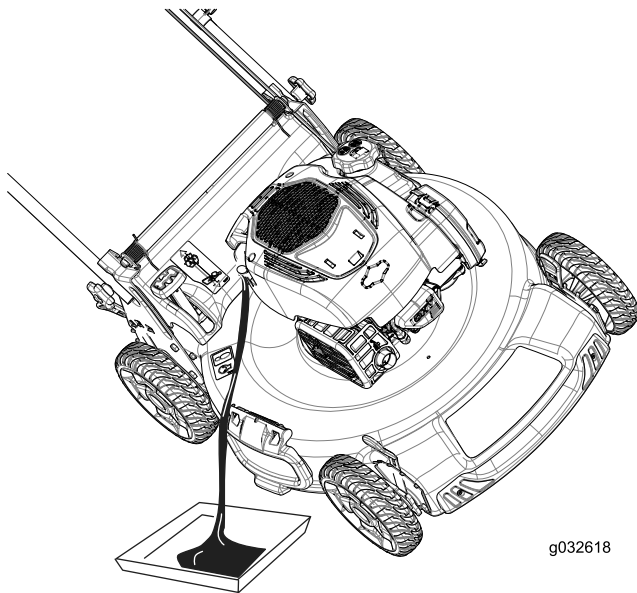

Figure 28
4. Tip the machine onto its side (so that the air filter is up) to drain the used oil from the oil-fill tube (Figure 28).